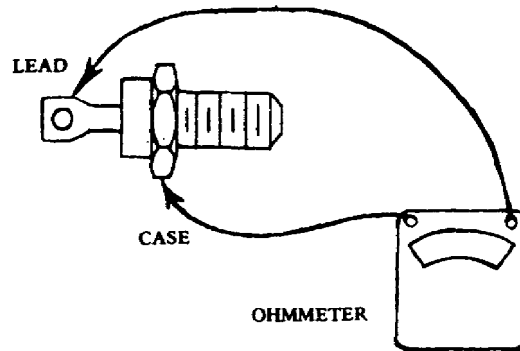

Figure 5. Diode checks.
6. DIODE CHECKS. Diodes when disconnected from the stator can be checked for defects with an ohmmeter having a 1-1/2-volt cell. Using the lowest range scale, connect the ohmmeter leads to the diode case and the diode stem and then reverse the connections (fig 5). On push-in type diodes, if both readings are very low, the diode is shorted. If both readings are very high, the diode is open. On threaded-type diodes, if both readings are below 300 ohms or if both readings are above 300 ohms, the diode is defective. The 300-ohm value should be near midscale for accuracy. A good diode will give one very low and one very high reading.